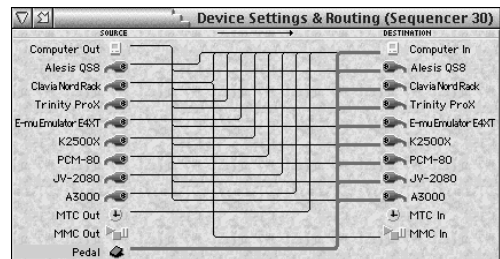

Figure 14-2: Routing pedal data.
- 6 Make the desired output assignment for the MIDI click data using the pedal icon in the Device Settings & Routing window as demonstrated in Figure 14-2 on page 86.